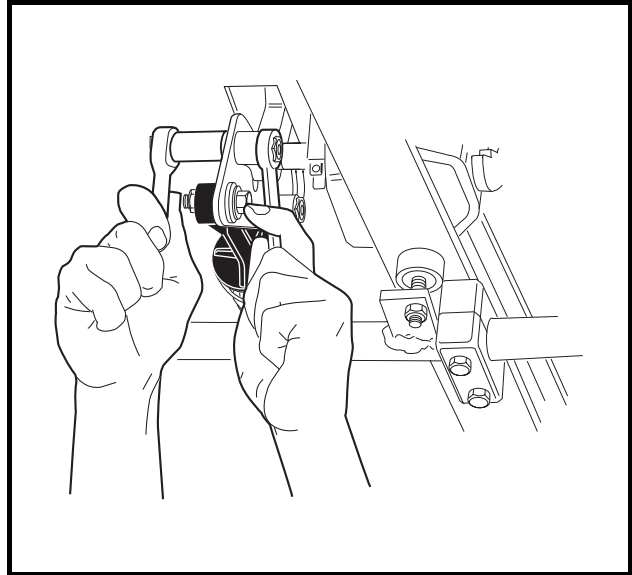

Figure 5-28 Accelerator Pedal Height Adjustment
- 5.1. Loosen the nut and bolt (Figure 5-28, Page 5-19) securing the accelerator pedal to the pivot plate.